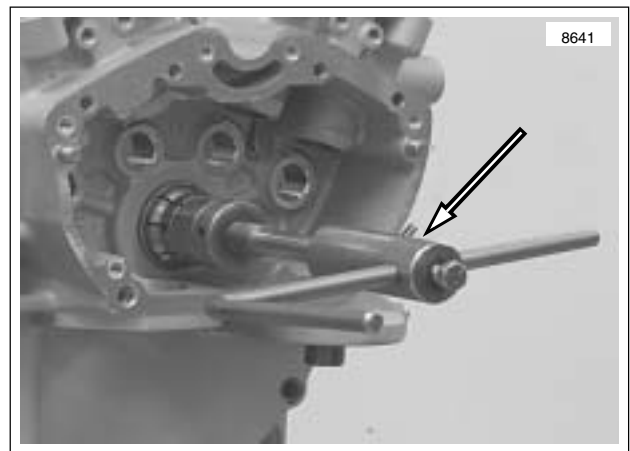

Figure 3-148. Lapping Pinion Shaft Main Bearing with Crankcase Main Bearing Lapping Tool (Part No. HD-96710-40B)
2. See Figure 3-148. Obtain CRANKCASE MAIN BEARING LAPPING TOOL (Part No. HD-96710-40B). Assemble CRANKCASE MAIN BEARING LAP (Part No. HD-96718-87) to lapping handle. Assemble guide sleeve to sprocket shaft bearing bushing. Sleeves, for use with tapered bearing, are assembled to case with bearings and small spacer collar. Finger-tighten the sleeve parts.